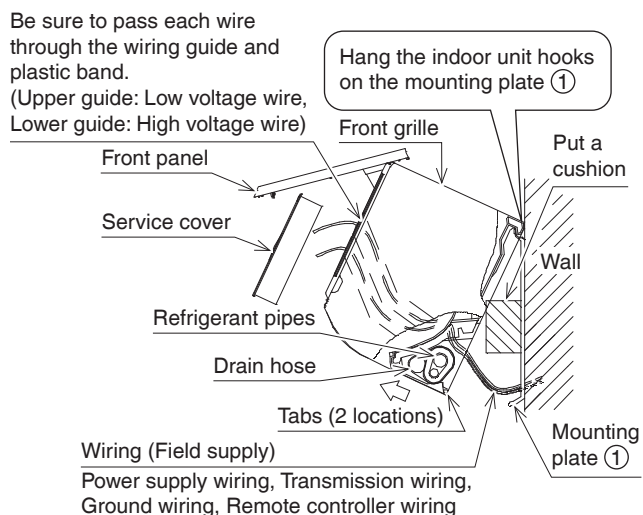

Fig. 13
- 2) Pass the drain hose and refrigerant pipes through the hole, then set the indoor unit hooks on the mounting plate by using the Δ markings at the top of the indoor unit as a guide. **(Refer to Fig. 13)**
- Shape the refrigerant pipes along the pipe path marking on the mounting plate ①.
- Pass the drain hose and refrigerant pipes through the hole, then set the indoor unit on mounting plate hooks, using the Δ markings at the top of indoor unit as a guide. (Refer to **Fig. 13**)